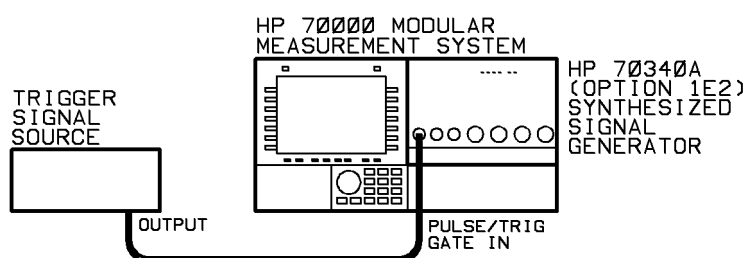

Figure 3-4. Externally Triggered Pulse Modulation Equipment Setup
1. Connect the equipment as shown in Figure 3-4:
To program the signal generator to generate the signal explained above, connect the equipment as shown in Figure 3-4, set the trigger signal source for the desired triggering characteristics, and then run the following program.